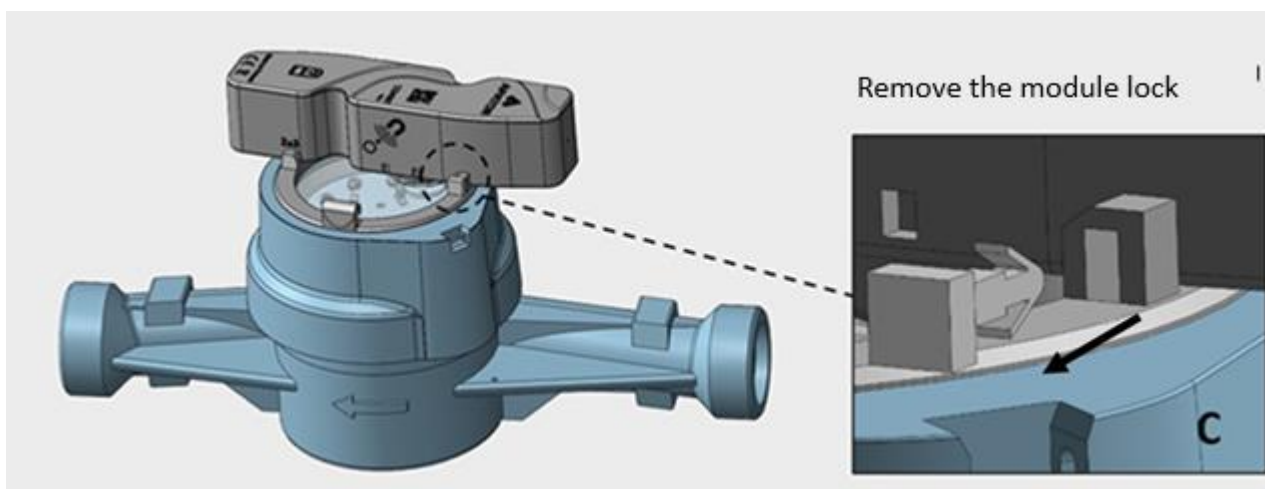

Fig. 37. Removing the ring lock from an IP68 water meter.
- While holding the water meter with one hand, pull the ring lock (Fig. 37) out of the latch on the counter cover and the IN-LWAN module socket.